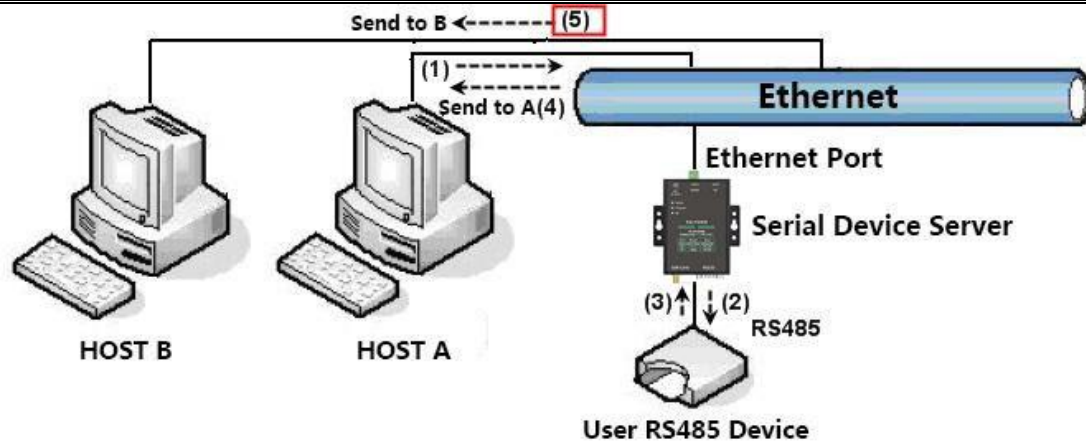

Figure 44 Multi-host function demonstration
As shown in Figure 44, "RS485 multi-host support" and "RS485 bus conflict detection function" are the multi-host functions. They are generally enabled and disabled at the same time. After enabling, the device with the conversion protocol of Modbus TCP has the function of storage-type Modbus gateway, otherwise it is a non-storage-type Modbus gateway; if the conversion protocol is None, the user-defined RS485 protocol can generally also have the function of serial port devices accessed by multiple hosts at the same time, which is impossible in a pure RS485 network, because multiple masters sending at the same time will cause conflicts on the RS485 bus. The multi-host of this serial port server can "coordinate" the RS485 bus to achieve the purpose of multi-host access.
As shown in Figure 44, in the normal mode, when two hosts: host A and host B are connected to the serial server at the same time, host A sends (1) command, RS485 device receives (2) command, RS485 device returns (3) command, but the serial port server will send (4) to host A and (5) to host B at the same time. Since the host B did not send the query, but it also received the response command (5), the host B may generate a communication abnormal error. In the multi-host mode, there will only be command (4) but not command (5), because the serial server will automatically remember the host that needs to be returned, and only return the instructions to the most recent communication host, and the query of host A will only reply to A, host B queries and replies to host B.
As shown in Figure 44, if the serial device (RTU device) is used as the master station and the network port device (Modbus TCP device) is used as the slave station, and there are multiple network port slave devices at the same time. At this time, you can use the method described in 6.2.2 Client Connecting Multiple Servers to let the serial port server as a client connect to these multiple network port devices at the same time.